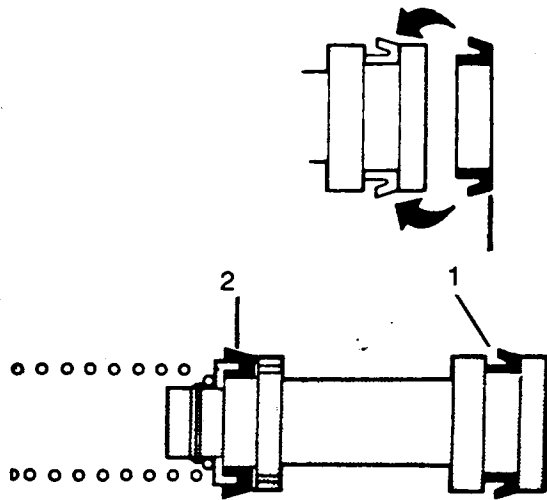

Fig K1.27
- (3) Refer to Fig K1.27. Fit the seal into the groove (1) in the primary plunger as described previously.
- (4) Fit the washer (2) new recuperating seal, seal retainer and primary spring. Ensure that the seals are fitted as illustrated.